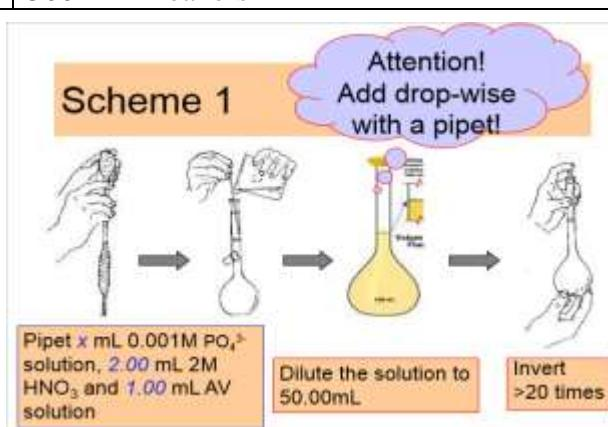

Figure 6. Dilution demonstration.
- Students will work in groups as assigned to construct a single calibration curve consisting of 6 data points having phosphate concentrations in the range  $2.00 \times 10^{-5}$  M to  $1.00 \times 10^{-4}$  M. Each student will be responsible for making at least one of the solutions (see Figure 6 demonstration) and measuring the absorbance of at least one data point.